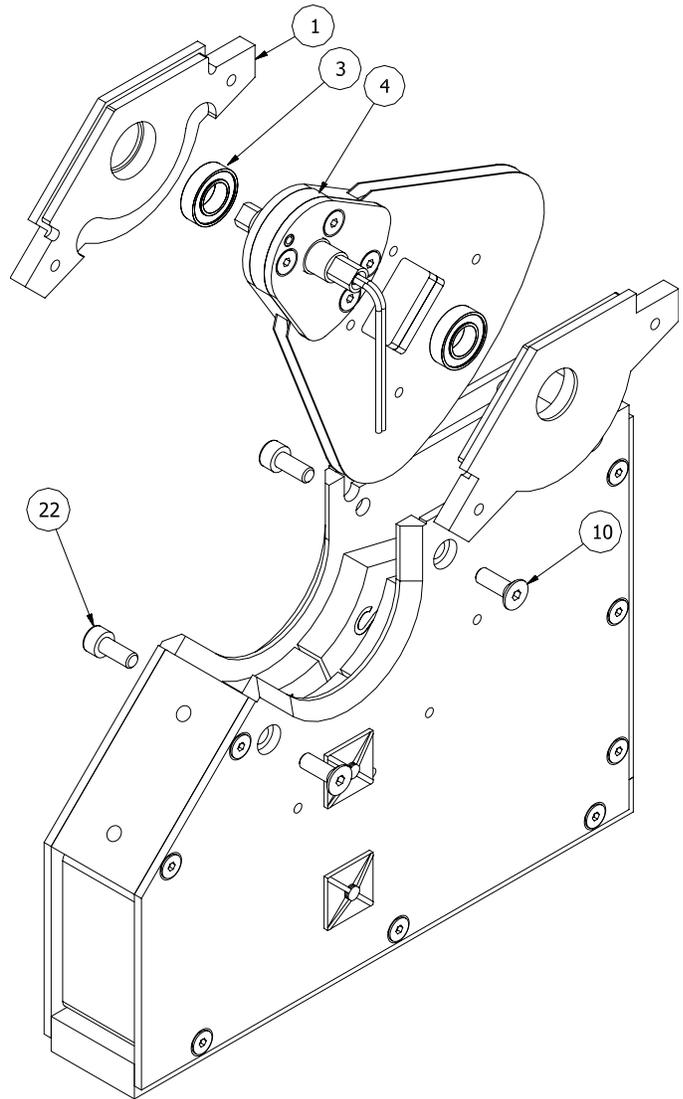

**FIGURE 2**
Refer to the **Figures 2, 3 and 4.**
Refer to the **FIGURES 2, 3 AND 4**.
7. Insert the top secondary shield (item 23) making sure that the holes line up for the mounting screws (item 9) and the finger shield (item 15). Refer to **FIGURE 2** for hole orientation.
8. Snap in the top cover (item 16) between the bearing plates (item 1). Apply a bead of silicone sealant around the top cover, filling any gaps.
9. Apply a small amount of grease in the void between the bearing (item 3) and the washer (item 8). Avoid getting any grease on the shaft; this will inhibit the adhesion of the Loctite to the shaft.
10. Slide the two washers (item 8) onto each side of the shaft.
11. Slide the two felt seals (item 20) onto each side of the shaft. The felt seal (item 20) should be centered on the washer (item 8), and must not overlap. (NOTE: If you are installing new felt seals (item 20), they should be saturated with light oil and the excess squeezed out prior to installation).
12. Install the two finger plates (item 2) to each side of the shaft. Apply a generous amount of Loctite #242 to the threaded portion of the shaft. Install the jam nuts (item 14) and tighten. (NOTE: The shaft and the finger plates must be clean, dry and free of oil for the Loctite to adhere properly)
13. Fold down the tops of the 2 felt seals (item 20) and slide the finger shield (item 15) over the finger plates (item 2). Make sure the felt seals stay folded under the finger shield.
14. Apply Loctite #242 to the threaded portion of the two shock mounts (item 17). Install the two shock mounts (item 17) and screws (item 18) in the finger shield (item 15) but do not tighten.
15. Adjust the finger shield (item 15) so that it does not rub on the finger plates (item 2) and tighten the screws (item 18) and shock mounts (item 17).
16. Follow the paddle installation procedure to mount the paddle (item 5) to the actuator.